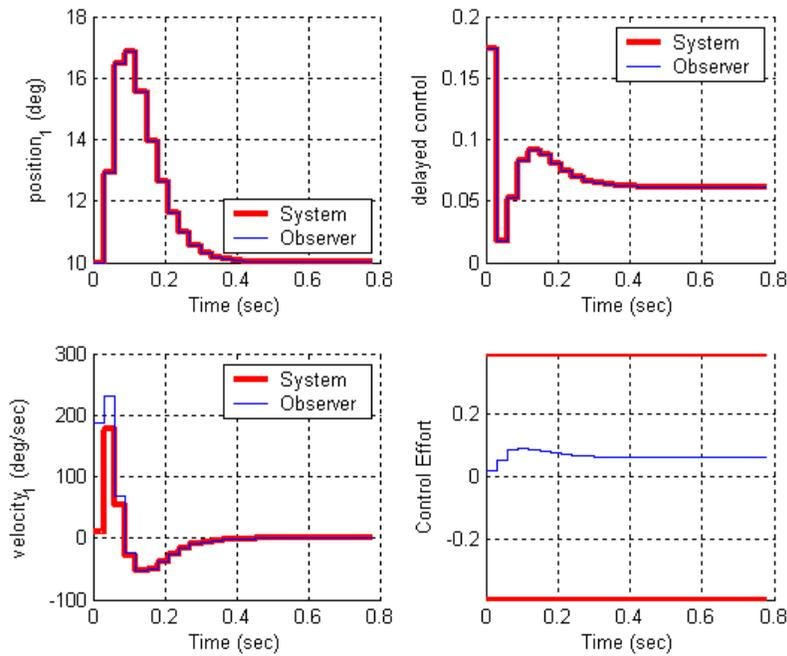

Figure 3. Results for problem 1d.
d) Now assume the same conditions as c, but with a sampling interval of 0.03 seconds. For a 10 degree step input you should get the graph shown in Figure 3. Turn in your plot.